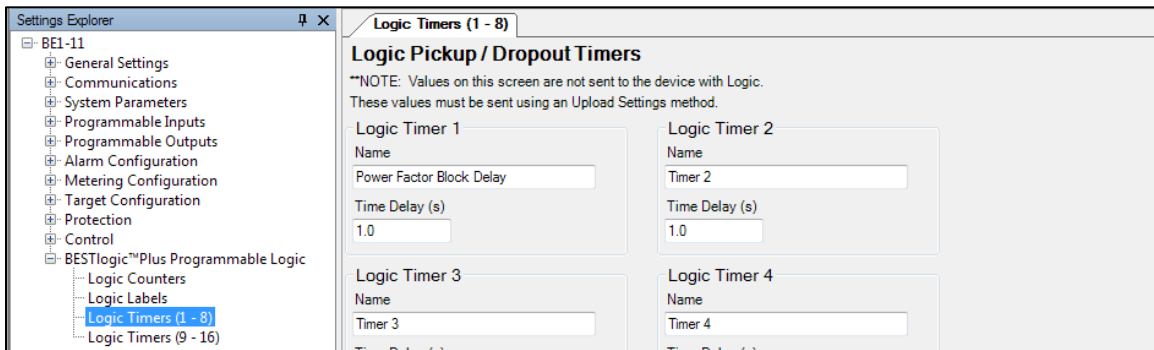
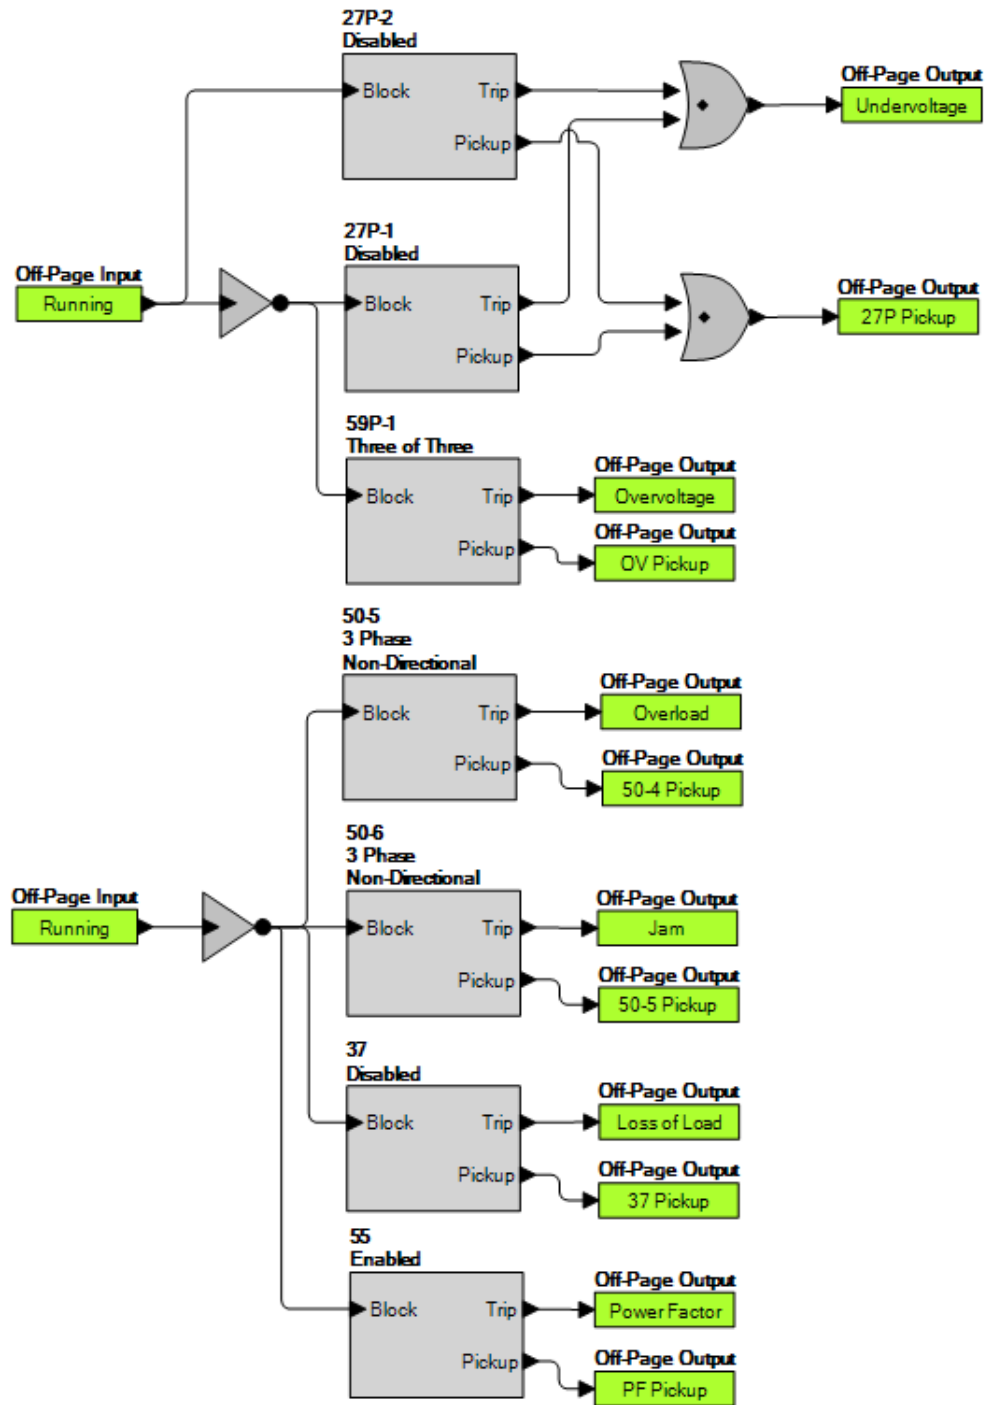

Figure 84-61. Logic Pickup / Dropout Timers Screen
Figure 84-69. Logic Page 3 (Power Factor (55) Added)
There is no need to set the Inhibit Level because the element is active only during the running mode as shown in the logic, Figure 84-69.
The Power Factor (55) element operates during synchronous motor operation. To ensure that the element is operates only when the motor is in synchronous mode, the logic timer shown in Figure 84-69 is added to the element Block input. Figure 84-61 shows a delay of 1 second. Zero (0) or more delay can be set for your particular situation.